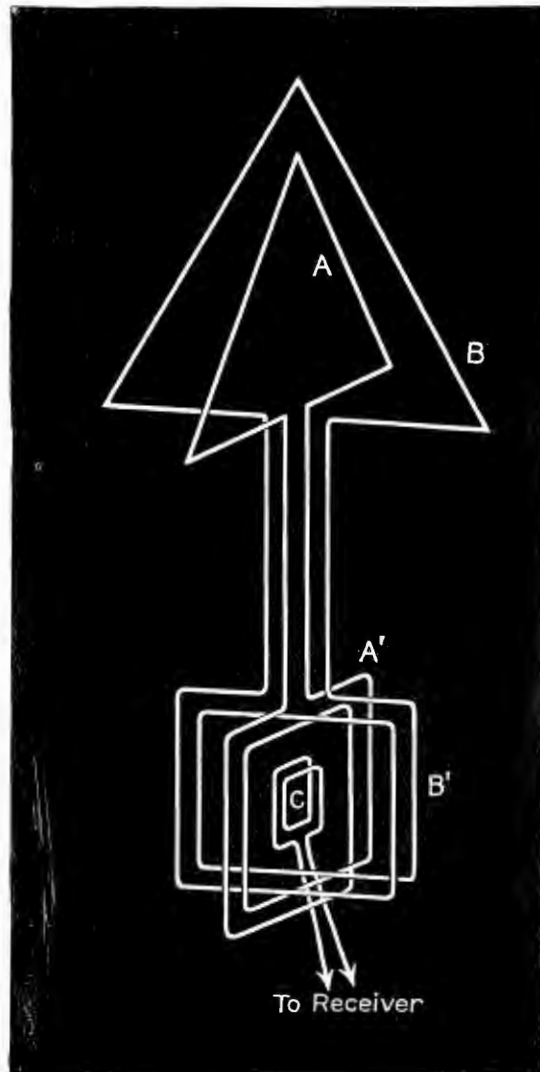

Figure 1
In this system the main directional antenna consists of two fixed loops at right angles to each other (Figure 1) the plane of one running fore and aft on shipboard, the plane of the other place parallel to the beam of the vessel. Loop A is joined to a goniometer coil, A', and loop B to B', both goniometers being located in the control room and as is evident from the diagram, A' and B' are at right angles to each other. C is a rotatable search coil magnetically coupled to the goniometers.
Let us now consider the general case of fixed loop reception. The two loops of Figure 1 may be set up in any two vertical planes at right angles to each other. In order that each of them, treated as a separate antenna may have the same voltage induced in it by a passing wave in its own plane, both loops, theoretically, should have the same area since the e-m-f is a direct function of A . Suppose that a wave whose electric field is $E_m \sin \omega t$ is incident on the system at an angle θ with the plane of the loop B, and therefore at an angle $(90^\circ - \theta)$ with the plane of the loop A (Figure 2). Remembering that ω equals $2\pi f$, and substituting equation (2) in equation (1), we obtain . . .